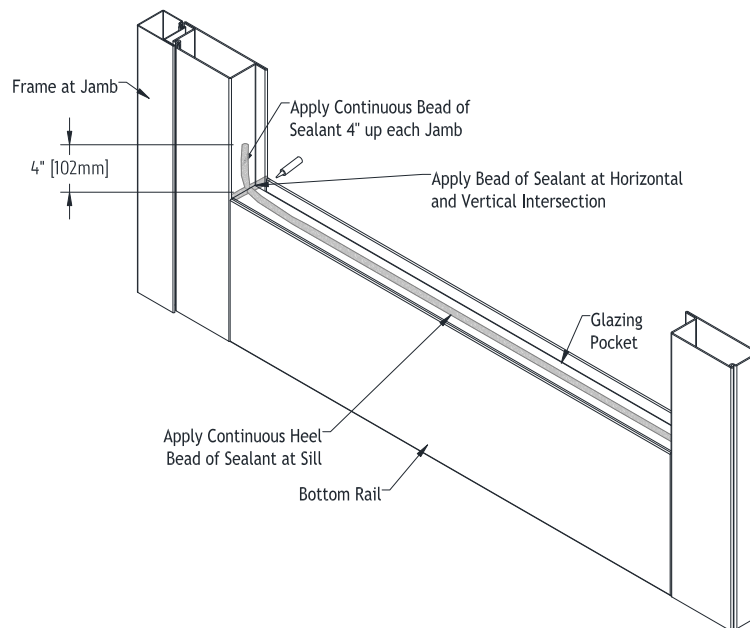

Figure 12 - Seal Intersections and Glazing Pocket
- 4.4 For exterior doors the glazing pockets of each opening **must be sealed** (Figure 12).